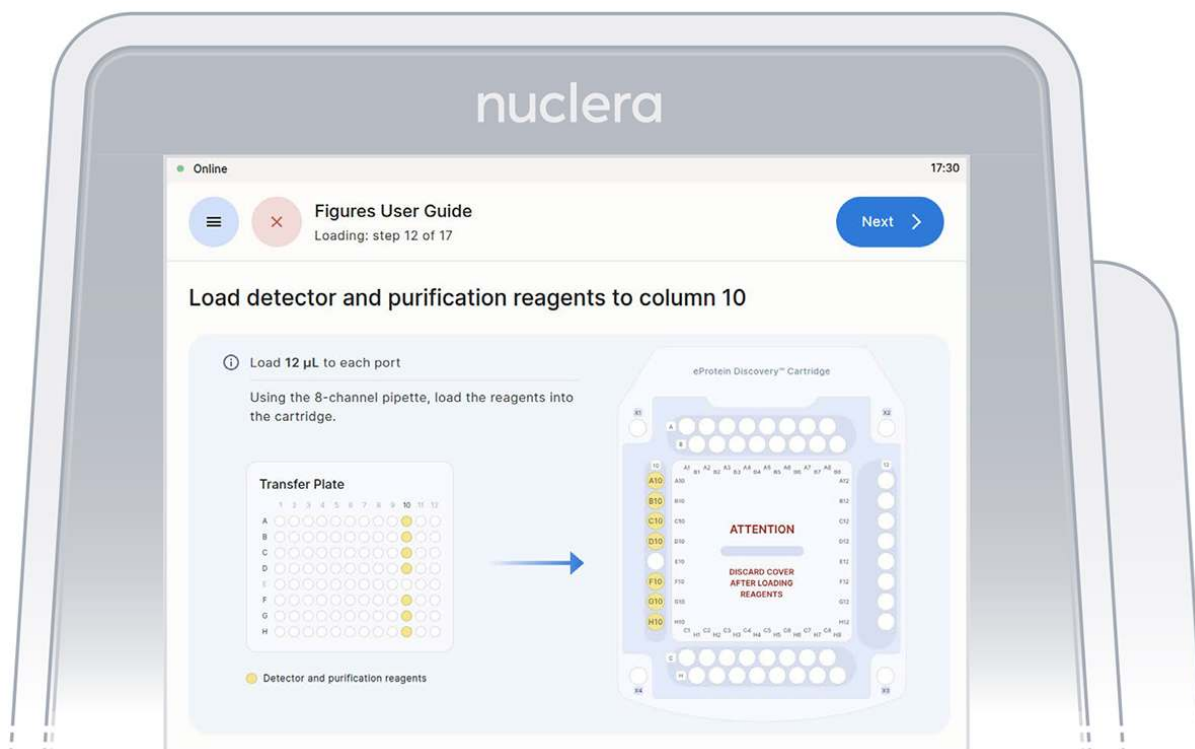

Figure 21: Loading of the reagents onto column 10 of the cartridge
- Load 7x fresh p20 pipette tips and aspirate 12 μ L of the reagents from the transfer plate wells A10-D10 and F10-H10 into ports A10-D10 and F10-H10 of the cartridge (Figure 21).